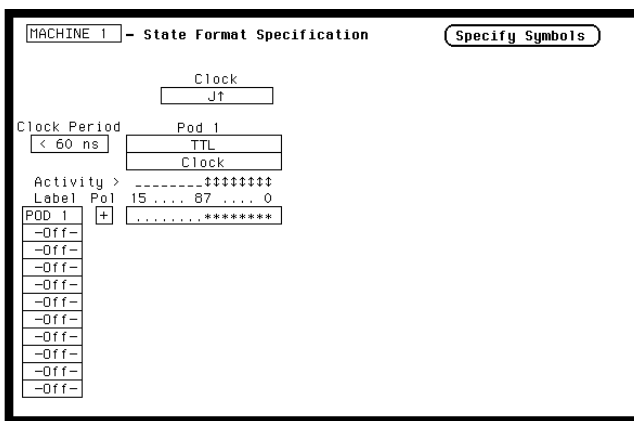

Figure 3-12. State Format Specification for Data Test 2
4. In the **State Format Specification** assign **Clock Period** < 60 ns, and rising edge of J clock. Also, assign lower 8 channels of the pod under test to a label as in figure 3-12.
4. In the **State Format Specification** menu assign **Clock Period < 60 ns**, and falling edge of J clock. Also, assign the lower 8 channels of the pod under test to a label as in figure 3-12.